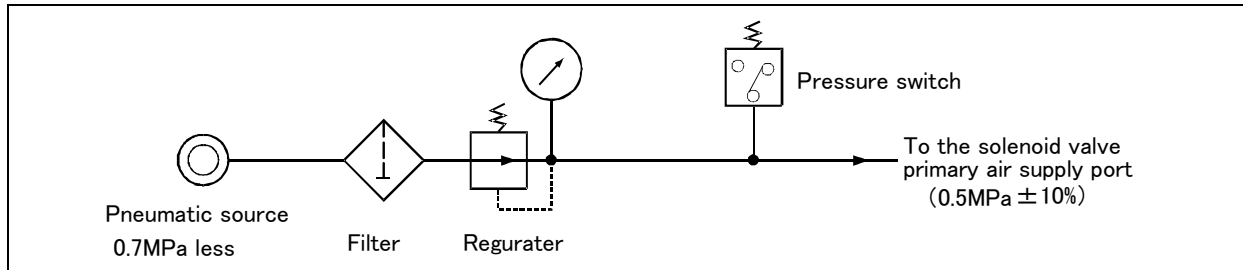

Fig.2-13 : Air supply circuit example for the hand
Fig. 2-13 shows an example of pneumatic supply circuitry for the hand.
- (1) Place diodes parallel to the solenoid coil.
- (2) When the factory pneumatic pressure drops, as a result of the hand clamp strength weakening, there can be damage to the work. To prevent it, install a pressure switch to the source of the air as shown in Fig. 2-13 and use the circuit described so that the robot stops when pressure drops. Use a hand with a spring-pressure clamp, or a mechanical lock-type hand, that can be used in cases where the pressure switch becomes damaged.